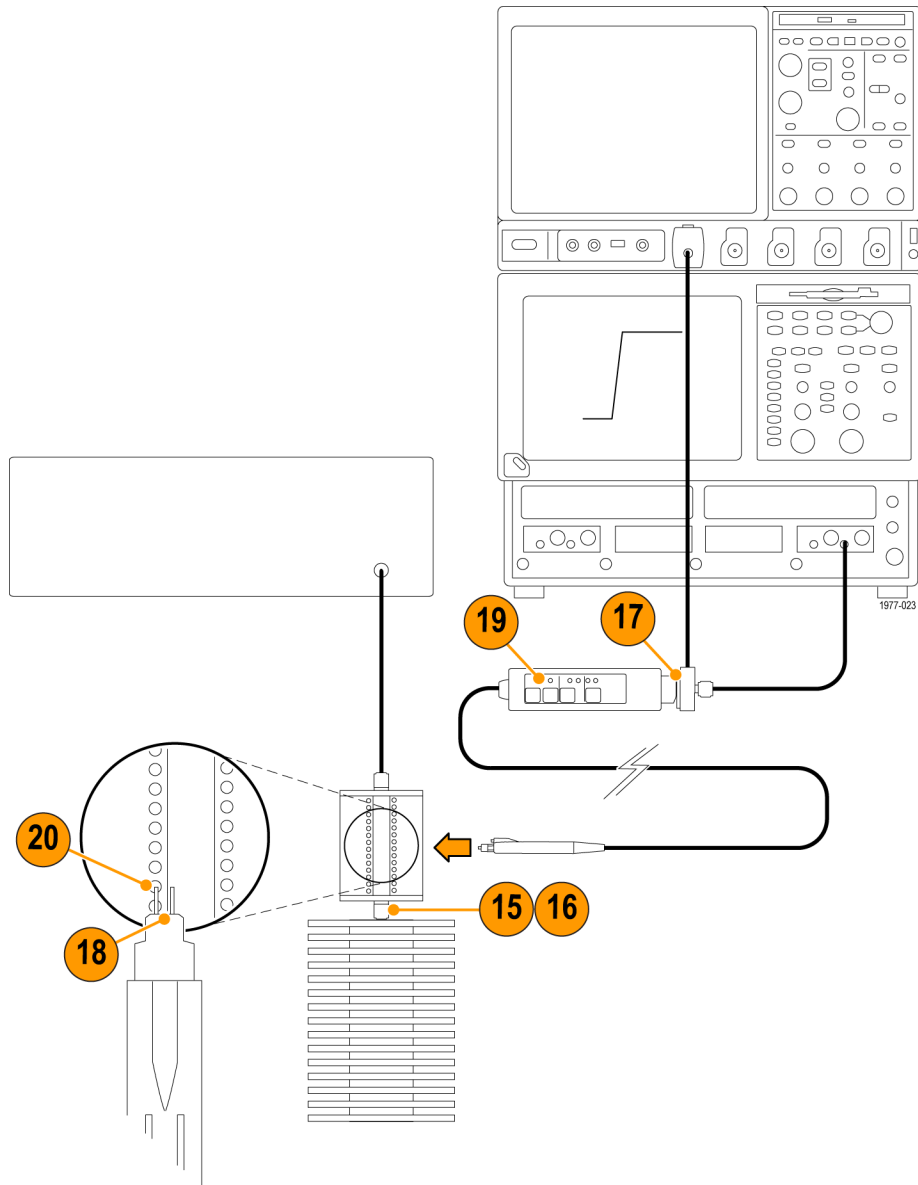

Figure 20: Probe rise time setup (42 V range)
20. Touch the probe tips to the DM pads on the probe calibration adapter and measure the rise time. (See Figure 20 on page 35.) Record the measured rise time of the system and probe as t_{s+p} . This measurement at the 42 V range is typically about 400 ps.